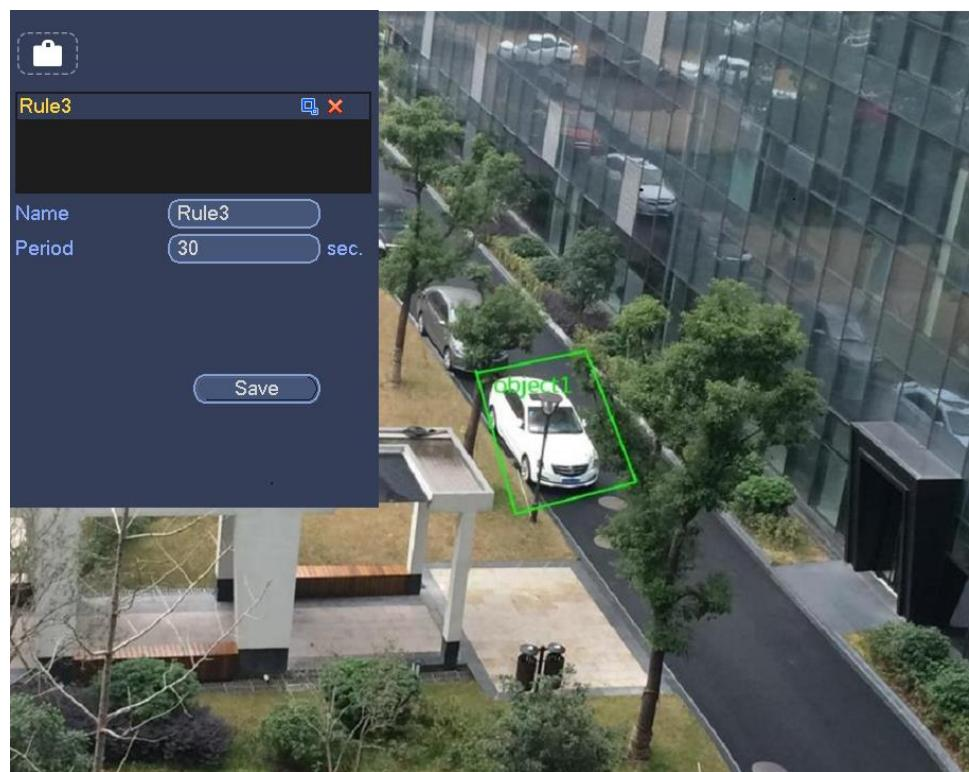

Figure 4-151
1. Click draw button to draw the zone. See Figure 4-151.